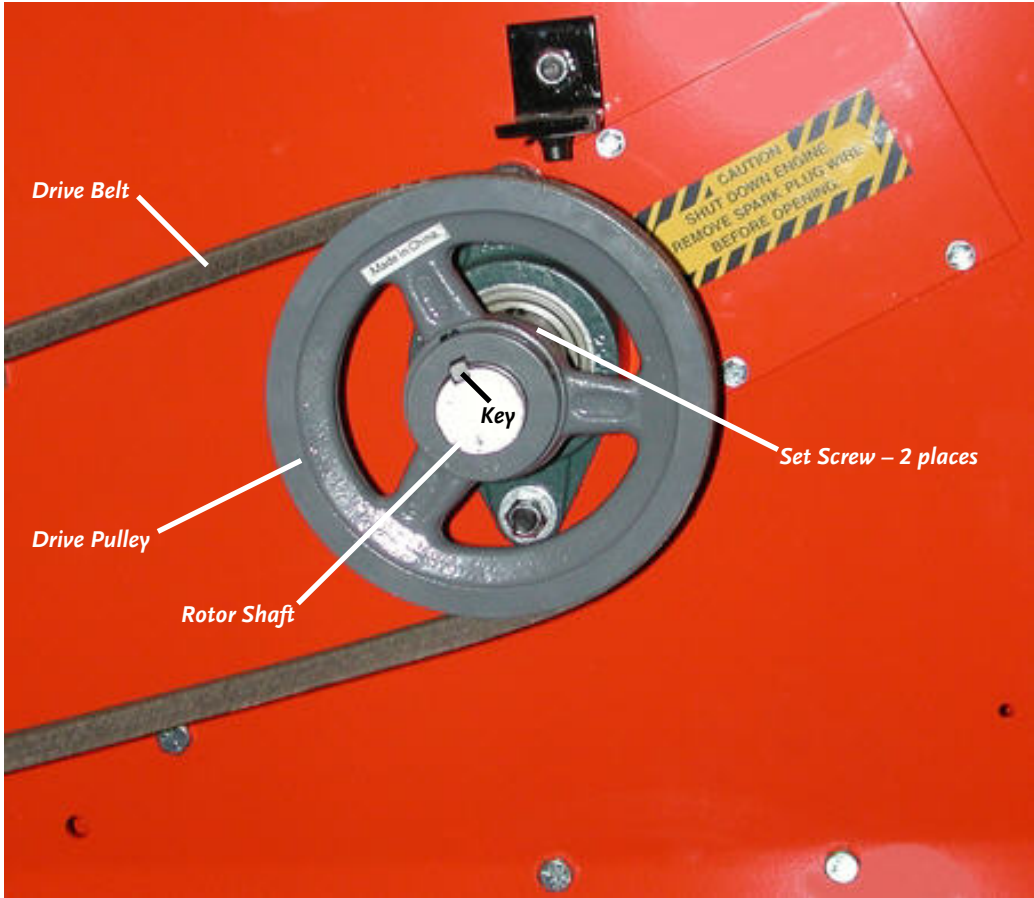

Figure 13
- a) Remove the two (2) Set Screws in the Drive Pulley Hub with a 5/32" Allen Wrench (**Figure 13** on page 32) and set them aside.
- b) Using a straightedge, align the Clutch and Drive Pulley as shown in **Figure 10** by moving the Drive Pulley in or out on the Rotor Shaft (**Figure 13** on page 32). **Do not make the adjustment by moving the Clutch on the Engine Shaft.**
NOTE: After you perform the adjustment, make sure that the Key remained in the Rotor Shaft and flush with the end surface of the Shaft (**Figure 13** on page 32).